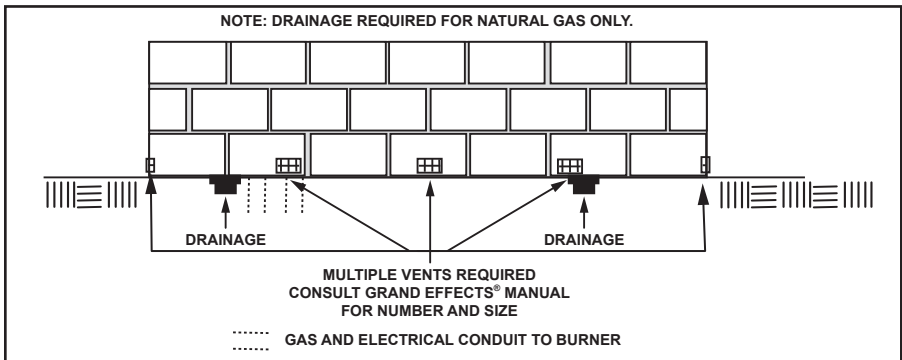
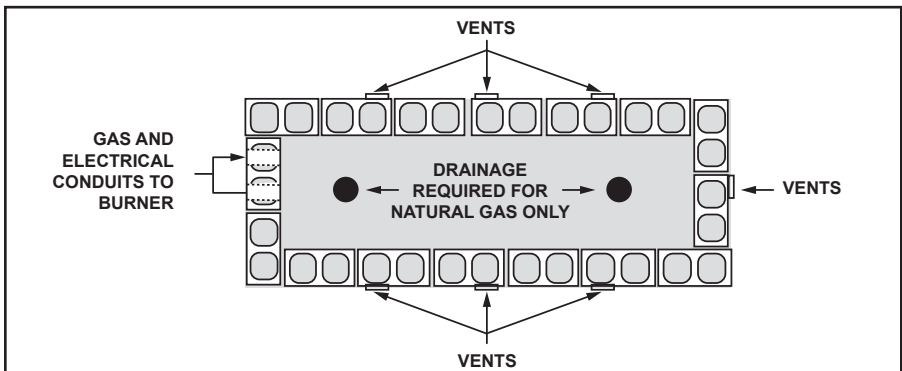

Figure 4. Inner Mount Venting - Side View
Figure 5. Outer Mount Venting - Top View
NOTE: Providing good drainage is critical as shown in Figures 4 and 5.
7. Venting the air gap at the bottom, end walls and structure is required for safety measures and cooling the electrical components as shown in Figures 4 and Figure 5.
1. The height of the flame can be adjusted at each burner by opening or closing the ½" gas valve or keyed valve as shown in Figure 4.